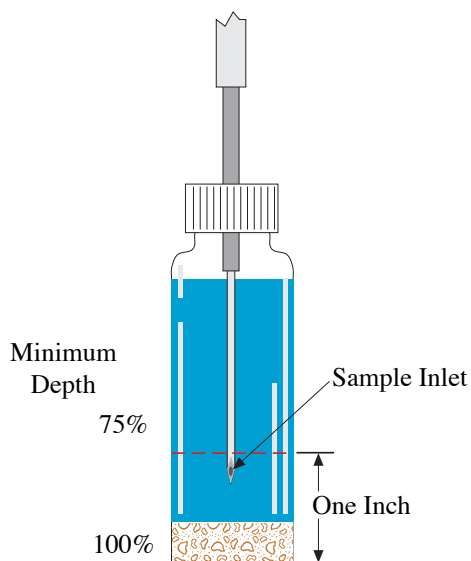

Figure 4.3. Needle Depth
**4551A Needle Depth (pct)** Sets the depth (percent) that the needle penetrates the **Sample Vials** and **Wash Vials**, as depicted in Figure 4.3. For example, setting the depth to 90% lowers the needle 90% into the vial. Set the depth to 90% for particulated samples to prevent large, settled particles from clogging the needle. The available needle depth ranges from 75 to 100%.